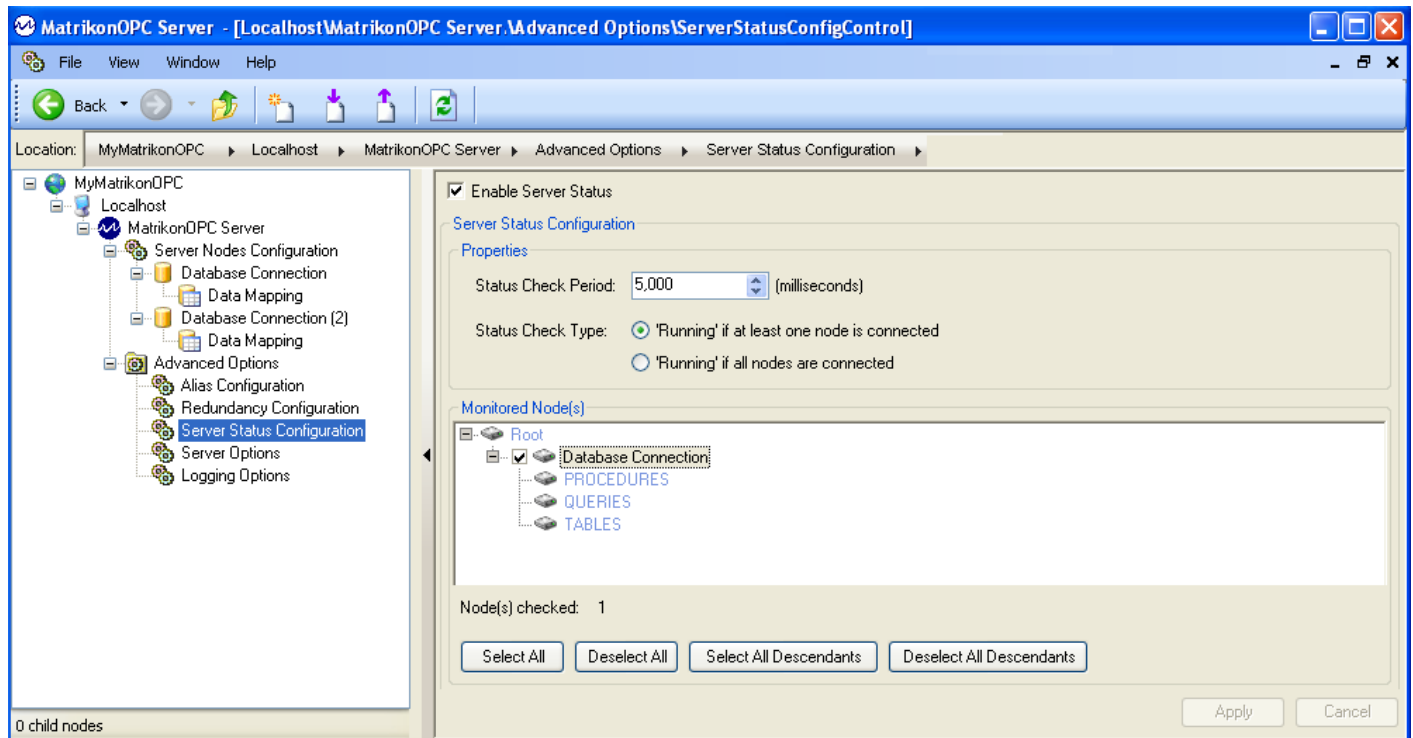

Figure 57 - Server Status Configuration Page
Figure 57 displays the settings available for configuring the Server Status node.
- The **Server Status Configuration** page (Figure 57) appears on the right side of the screen.